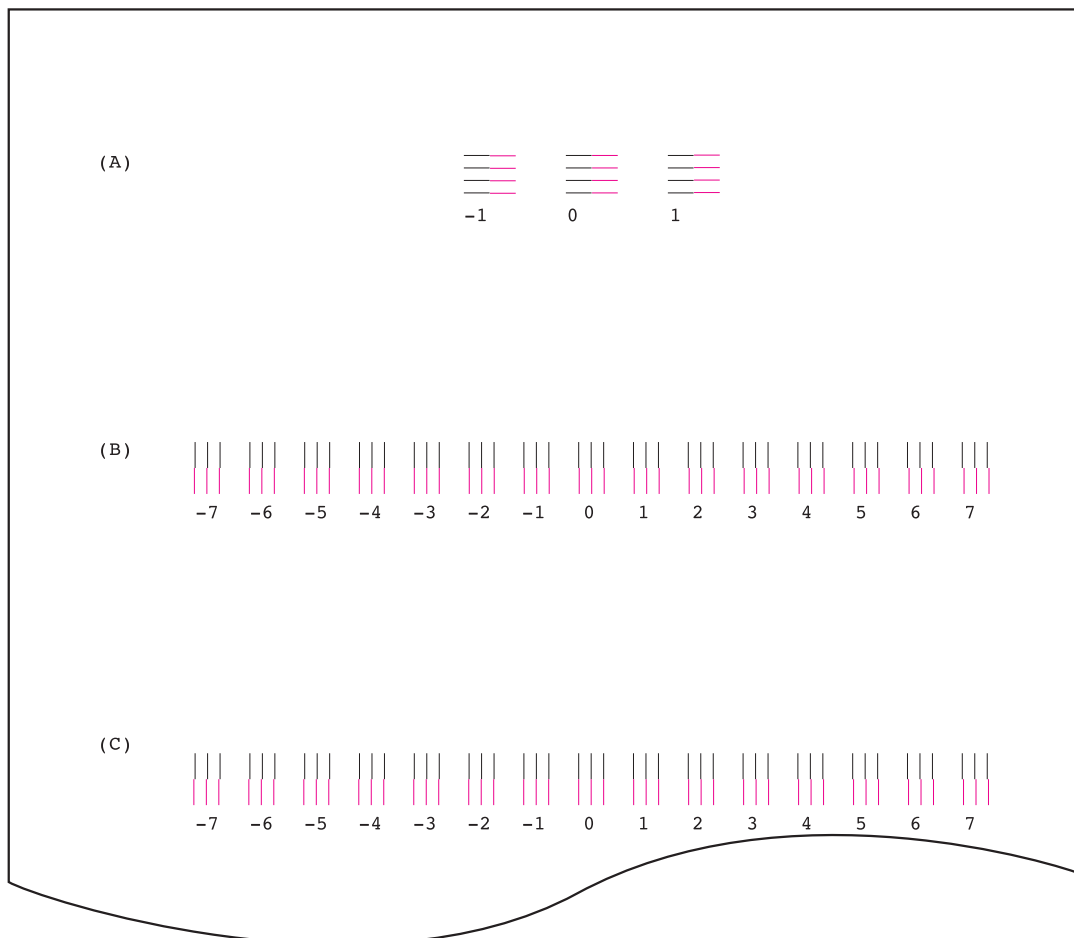

Figure 3-8 Checking the Position of the Print Head (1)
- 2) Select "Test Prints" under Maintenance Sheet in the printer driver, and print the head position adjustment pattern (*Figure 3-8 Checking the Position of the Print Head (1)*).